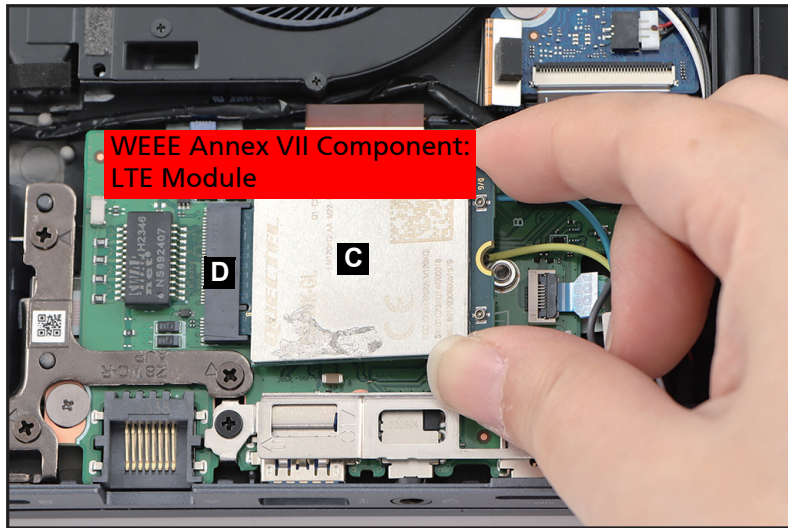

Figure 1-16. LTE Module Removal
4. Disconnect the LTE module (C) from the mainboard connector (D) (Figure 1-16). Then remove the LTE module.